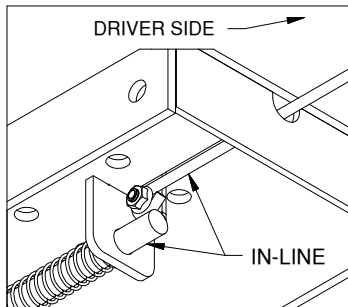

Figure E2.
3. **Secure Handle.** Secure the handle to the pin with the 5/16" X 3/4" carriage bolt and 5/16" locking flange, see Figure E2. Note: The included 5/16" cap screw can replace the carriage bolt if wrench access on the "cab side" of the handle is limited. Tighten the nut until it is secure. When tightening the handle, position it so that it will not rub on the center, the side plate, the bed flange, or the liner. Retract and release the handle slowly to make sure it will not hang up on any obstacles that may prevent the latch pin from fully engaging the socket. Do not over-tighten and deform the handle eyelet.